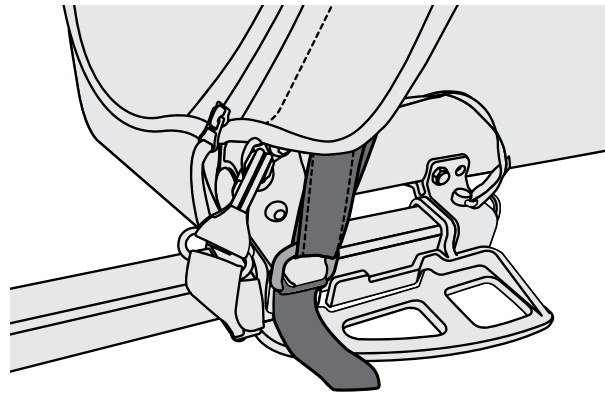

Figure 20
1. Slip the cover D-rings over the hooked corners of the tow bar receivers (Figure 20).